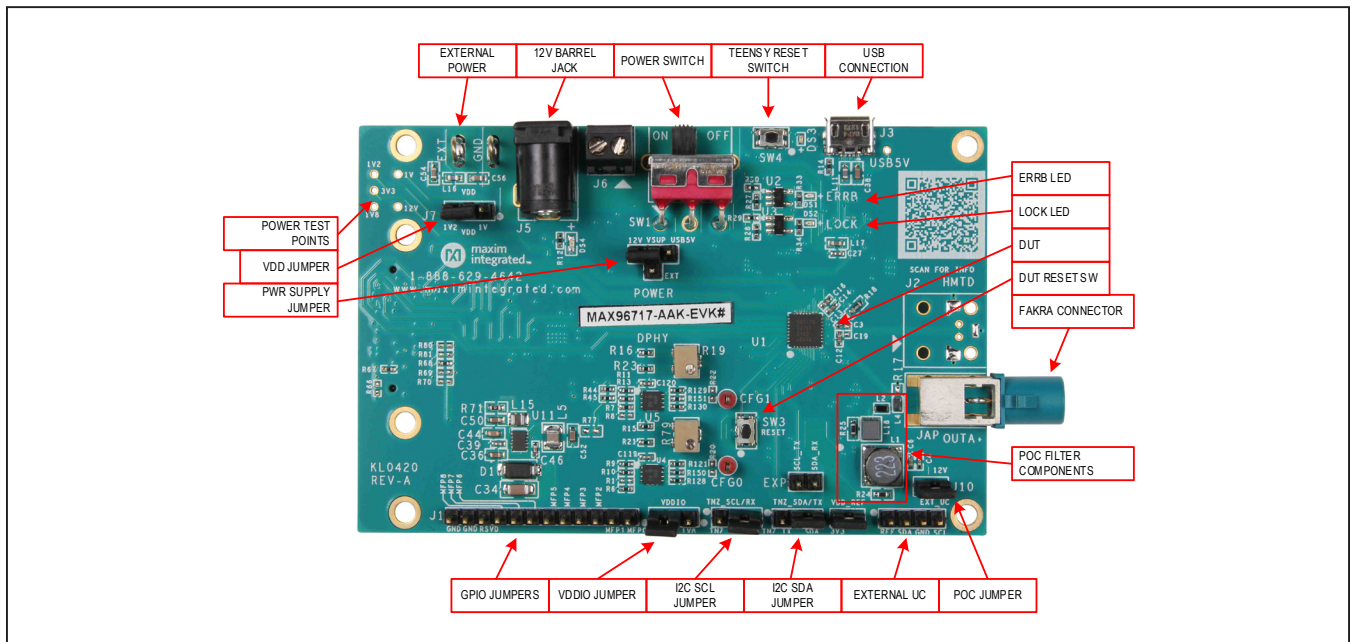

Figure 2. MAX96717 EV Kit Picture of Board (Top View)
- 3) Verify that jumpers on the serializer board are in their default positions, as shown in Figure 2, and SW1 is in the OFF position.